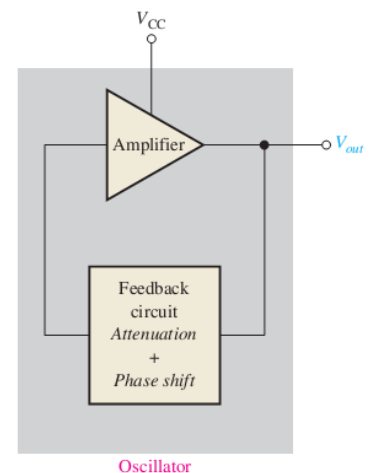

Figure 2 Basic elements of a feedback oscillator.
- A feedback oscillator consists of an **amplifier for gain** (either a discrete transistor or an op-amp) and a **positive feedback circuit** that produces phase shift and provides attenuation, as shown in Figure 2.